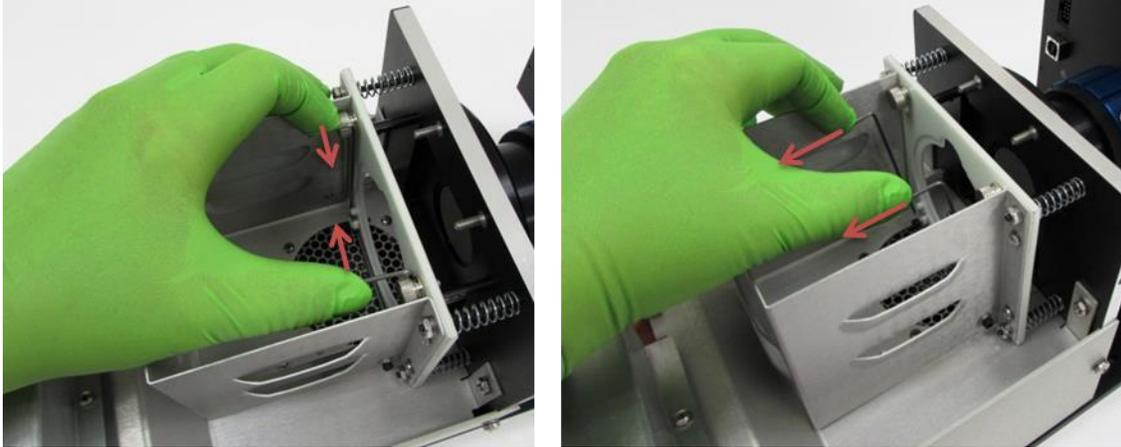

Figure 12: Move Lamp Holder Wires
4. Press the lamp holder wires toward each other and then pull them toward the rear of the APEX2 unit. This is demonstrated in Figure 12.